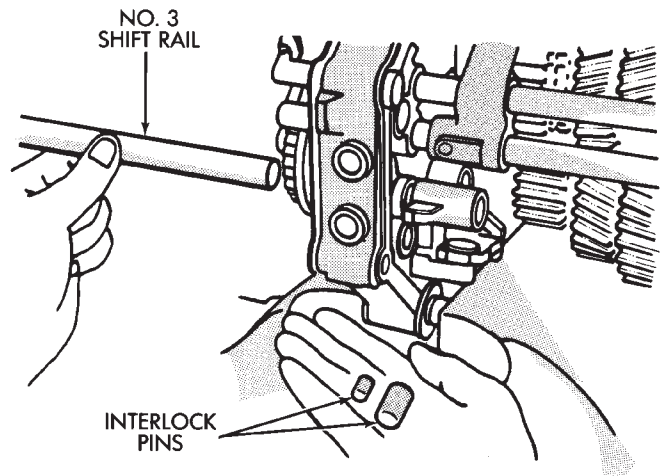

Fig. 14 Removing No. 3 Shift Rail And Interlock Pin
(8) Remove shift rail No.3. Catch interlock pins as rail is removed (Fig. 14).